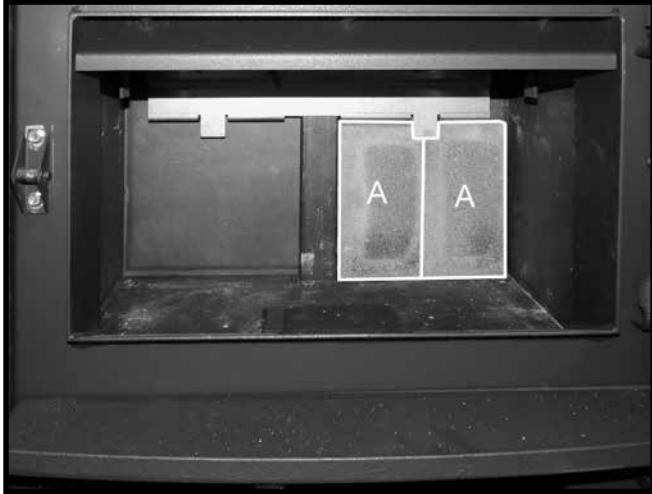
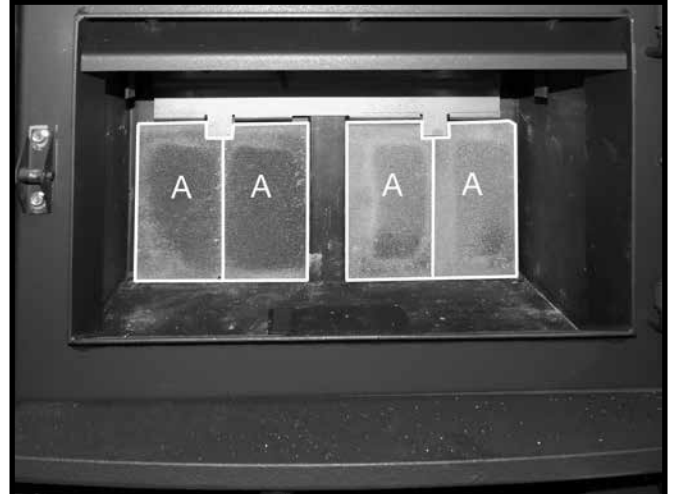

Figure 11: Installing the two rear wall firebricks.
Figure 12: Remaining rear wall firebricks in place.
2. Slide a 2nd "A" firebrick underneath the tab on the brick rail (Figure 11). Repeat steps 1 & 2 for the other side. Figure 12